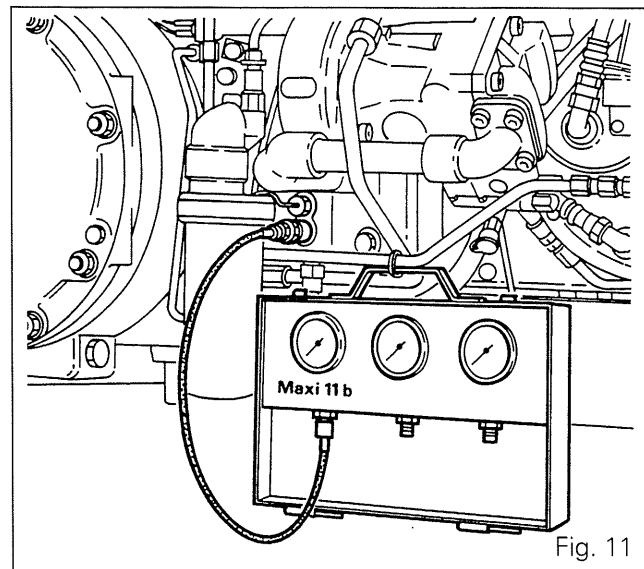

Fig. 11
- Connect a pressure gauge to the diagnostic connector located on the lower section of the right-hand hydraulic cover (Fig. 11) to check **P17**.